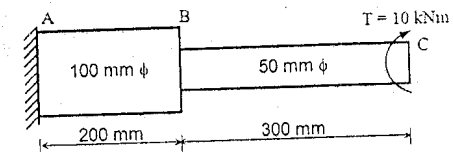

Figure.7
- Que.6. a) Two shaft AB and BC are connected in series as shown in fig. 7. The diameters of AB and BC are 100 mm and 50 mm respectively and their lengths are 200 mm and 300 mm respectively. Both the shafts are made of the same material having modulus of rigidity as $8 \times 10^4 \text{ N/mm}^2$. Determine **6 Marks**